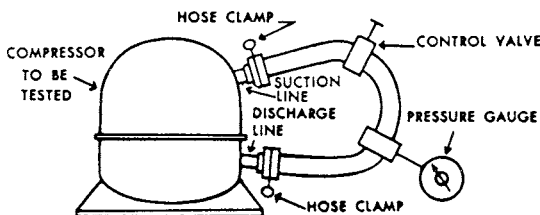

Fig. 12-30 Bypass line from suction to discharge line. (Tecumseh)
2. Install a bypass line from the suction to the discharge line as shown in Fig. 12-30. The control valve in the line is put in *full open* position.